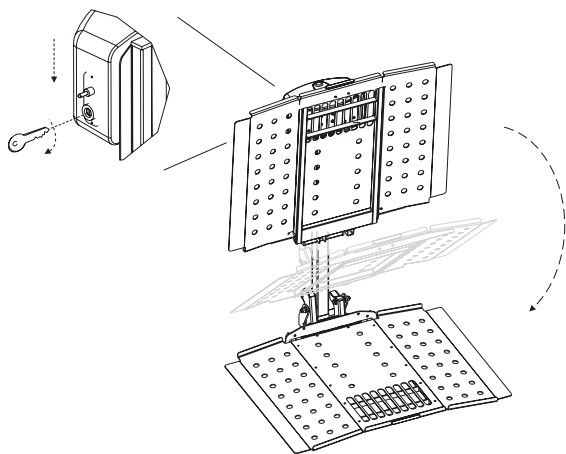

Figure 3-2
3. Continue to lower the platform until it reaches the ground and becomes level. *See Figure 3-2.*